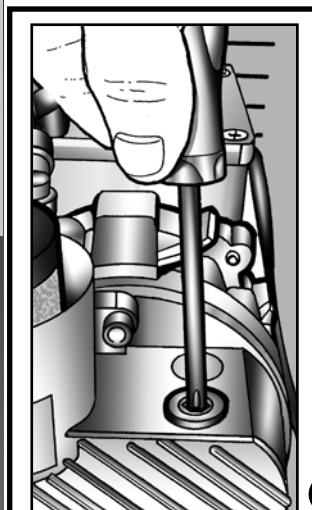

Fig. 10
- 7) Use a setscrew wrench to undo the oil filling cap at the top of the pump (**Fig. 10**).